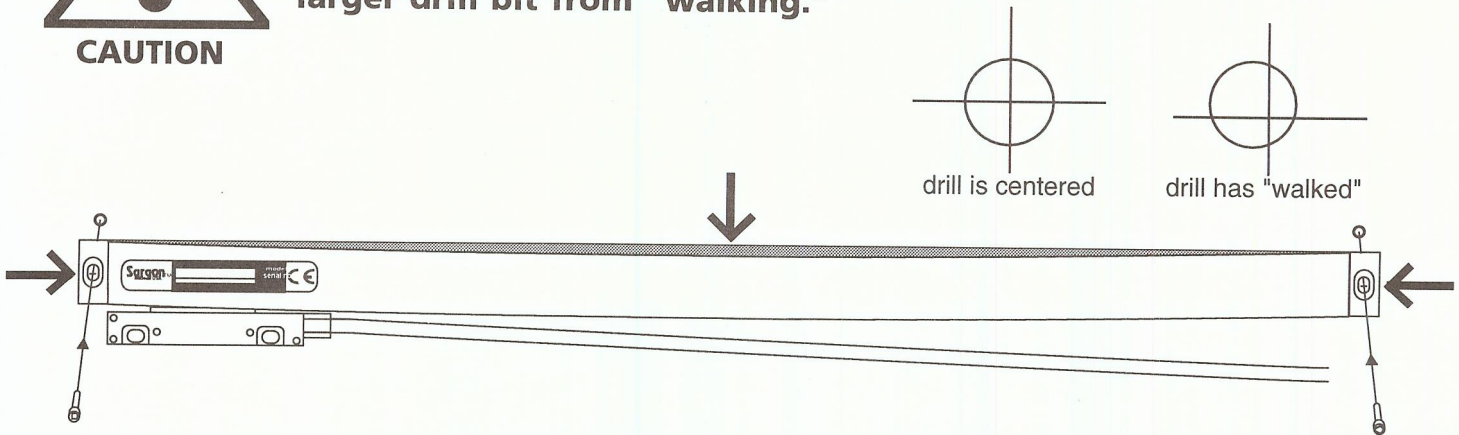

figure 2. improper drilling
- Do not drill holes at an angle. Do not improperly space holes. These errors may cause bowing or sagging of the miniscale. See Figure 2.